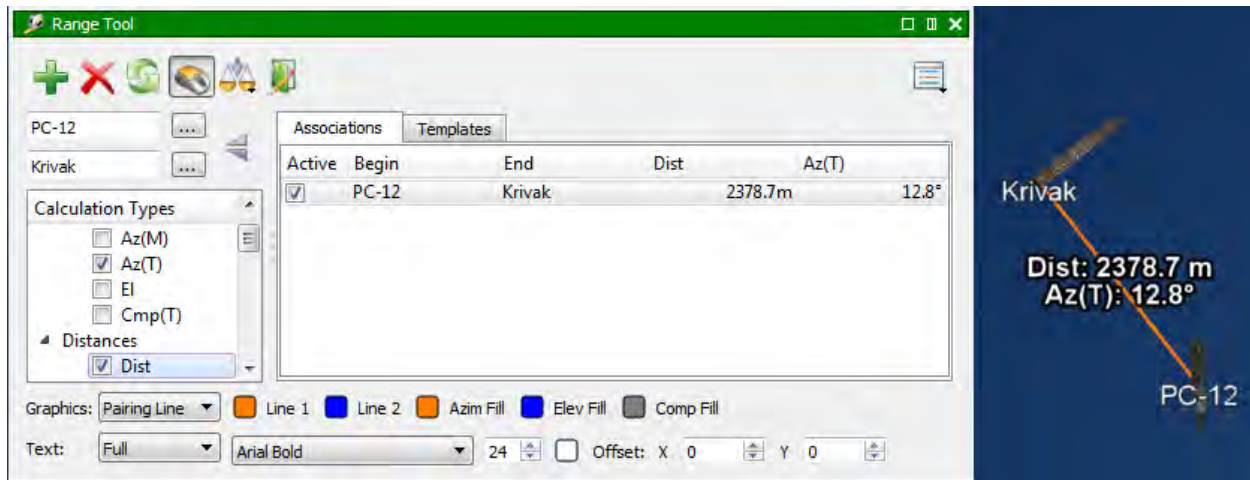

Figure 5.63: Range Tool's Paired Platforms
13. In **Calculation Types**, expand **Distances** and check **Dist**. This will display the **Ground Range** between **Krivak** and **PC-12** platforms, shown in Figure 5.63